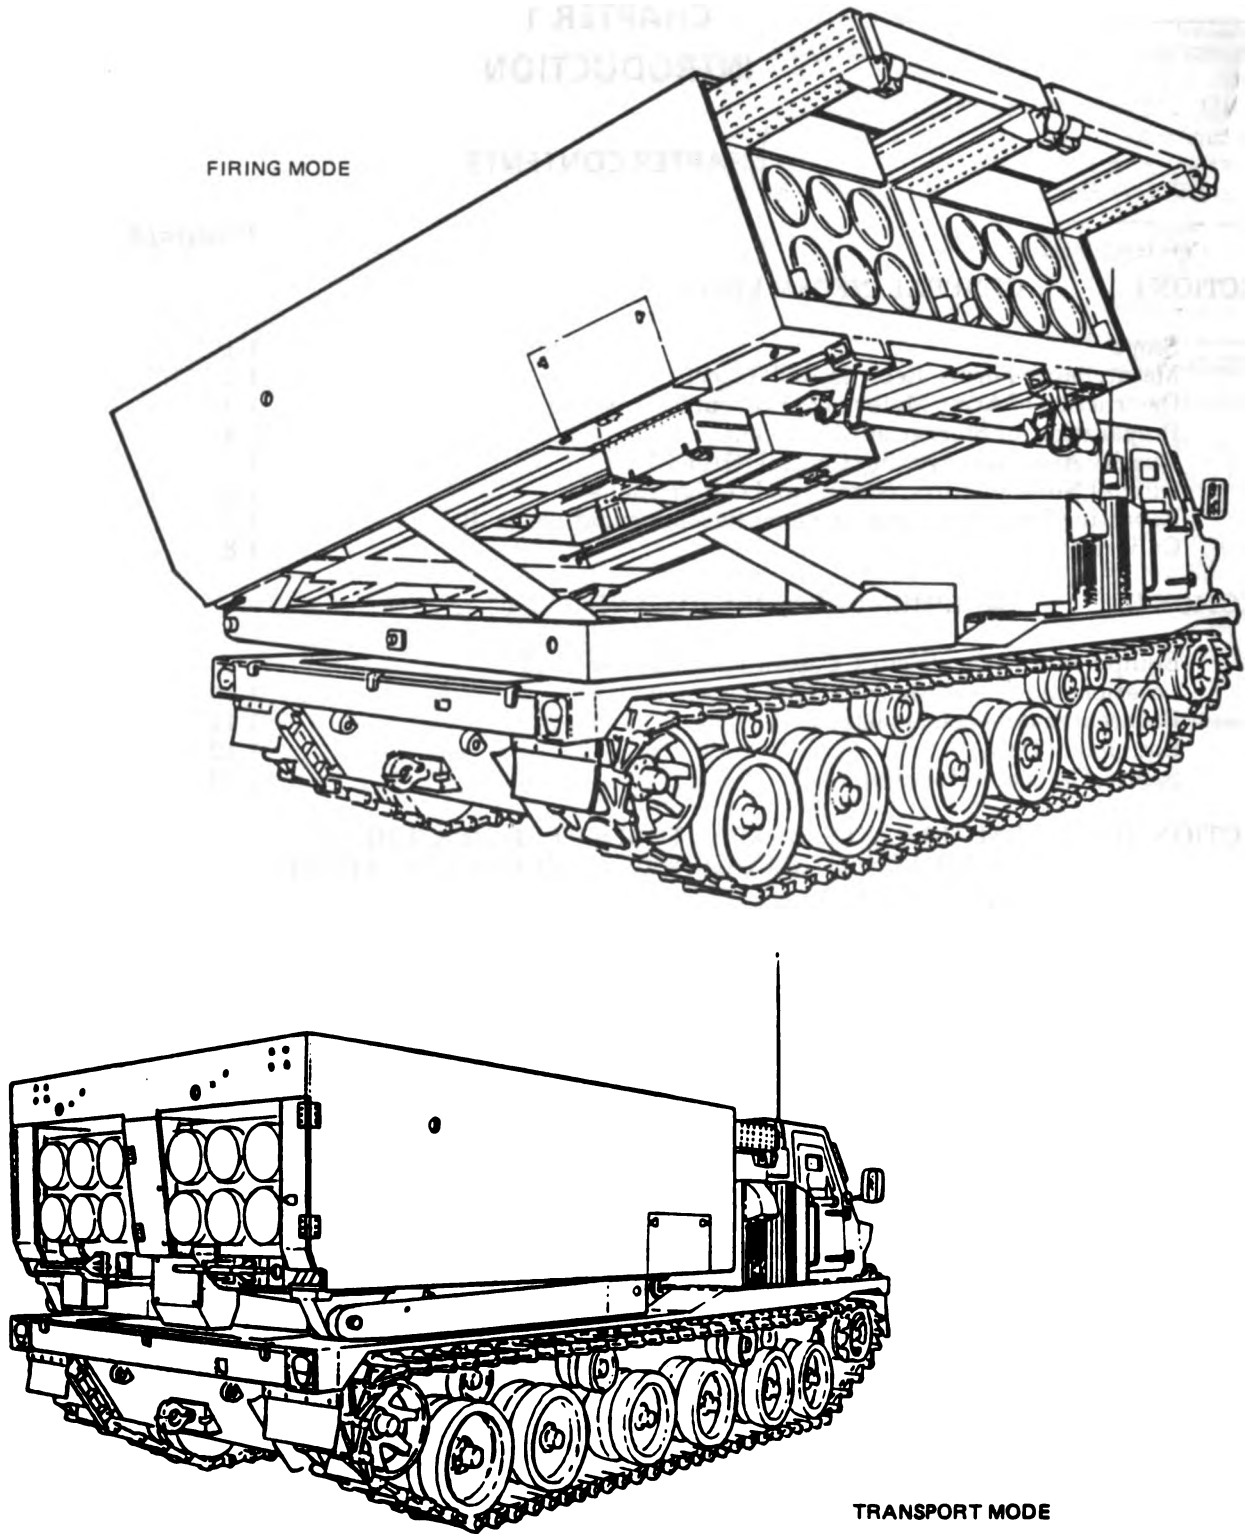

Figure 1-1. Armored Vehicle Mounted Rocket Launcher: M270
**1-1. SCOPE.** This manual contains the general support maintenance instructions for the Armored Vehicle Mounted Rocket Launcher M270. This rocket launcher (figure 1-1) is a mobile, medium-range rocket launching system which is a major component of the Multiple Launch Rocket System (MLRS). The MLRS consists of a M993 tracked vehicle, a M269 rocket launcher, and two 298 millimeter rocket pods. Each rocket pod contains six rockets.